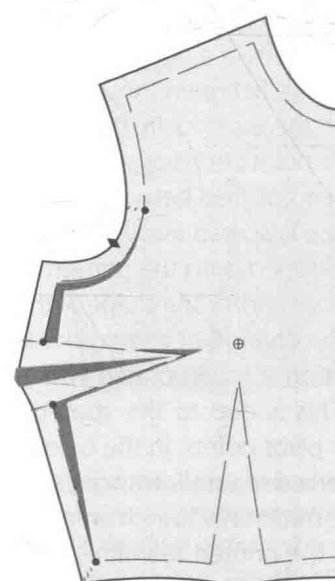

FIGURE 6.26e To increase width and enlarge the dart, slide seam allowances away from the pattern the amount needed.
8. Slide or pivot the free seam allowance in the required direction and amount (see Figure 6.26e). Open or colored space indicates an increase in size—spread. Diagonal lines in a colored area indicate a decrease in size—overlap.